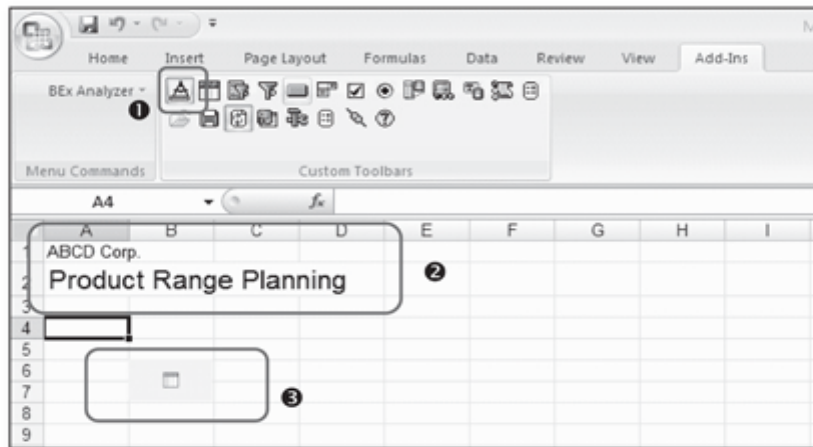
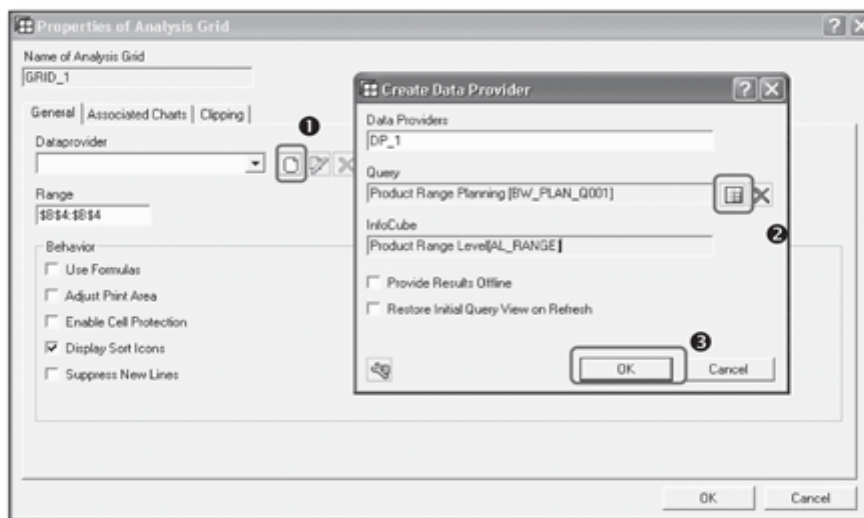

Figure 12.78 Create New Planning Application in BEx analyzer
Figure 12.79 Assign Input Ready Query to Analysis Grid Item
2. Open a new Excel workbook, and switch to design mode by clicking on the button shown in ❶ of Figure 12.78.
3. Maintain the heading for this application by editing the Excel cells (❷).
4. For the input-ready query, insert an analysis grid from the BEx design toolbar (❸).
5. Assign the input-ready query to the analysis grid in the properties (accessed from the analysis grid context menu) of the design item. For this, first create a new data provider by clicking on the Create button (❶ of Figure 12.79). Assign the input-ready query to the data provider using the button shown in ❷. Assign this data provider to the analysis grid item by clicking OK (❸).